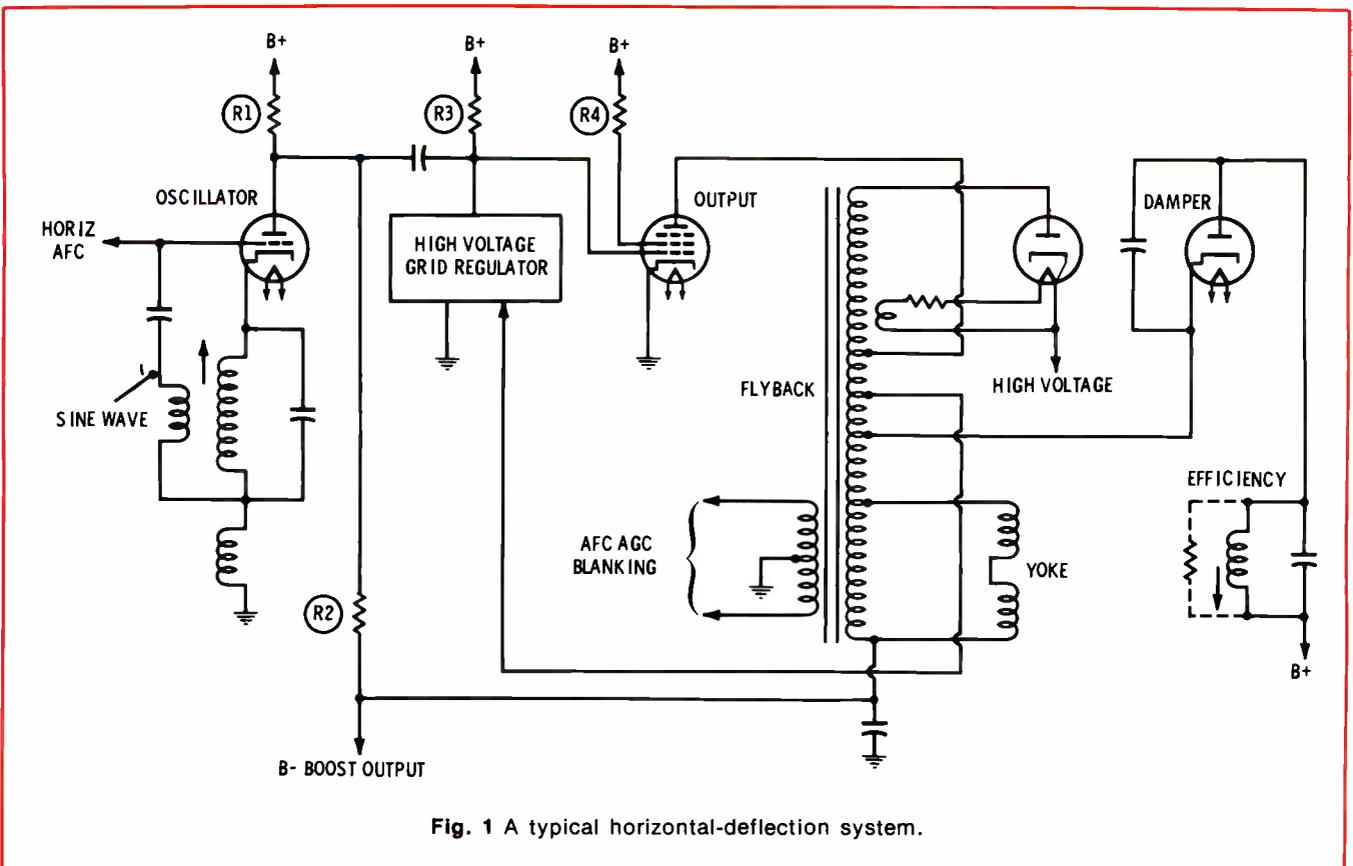

Fig. 1 A typical horizontal-deflection system.
**the damper cathode and the output plate.** This changes the circuit of Figure 1 into the simple circuit of Figure 2. Presto, the horizontal-output stage has been transformed from a very complex stage to a fairly simple resistance-loaded amplifier. If it performs properly, the fault must be in the flyback-yoke circuitry. If it doesn't do its job, the tests described below will pinpoint the trouble.